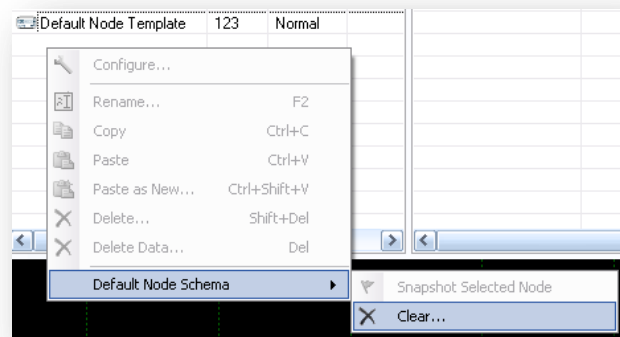

Figure 6-6 - Clear the default node
- From the node context-menu, choose Default Node Schema → *Clear...* (see Figure 6-6 - Clear the DEFAULT NODE)